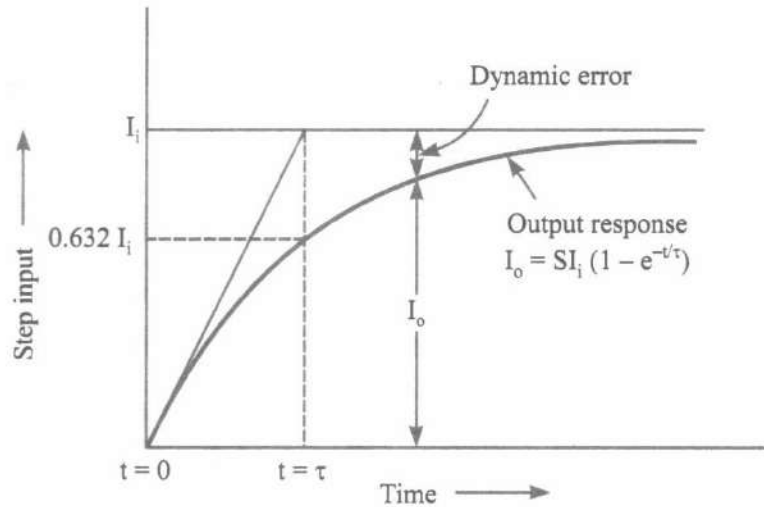

Fig. 2.13. Time response of a first-order system to step input.
- (iii) Refer to Fig. 2.13, which shows the time response of a first-order system to a step-input when